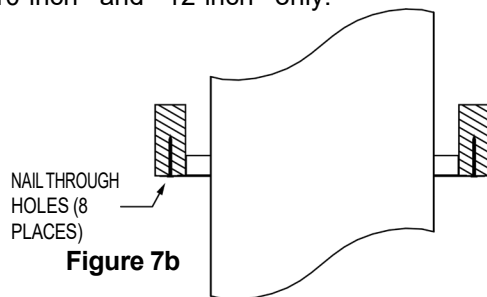

Figure 7b
- 3b. Secure Firestop Spacer (RFS) as shown in **Figure 7b** using nails through provided holes 10-inch and 12-inch only.